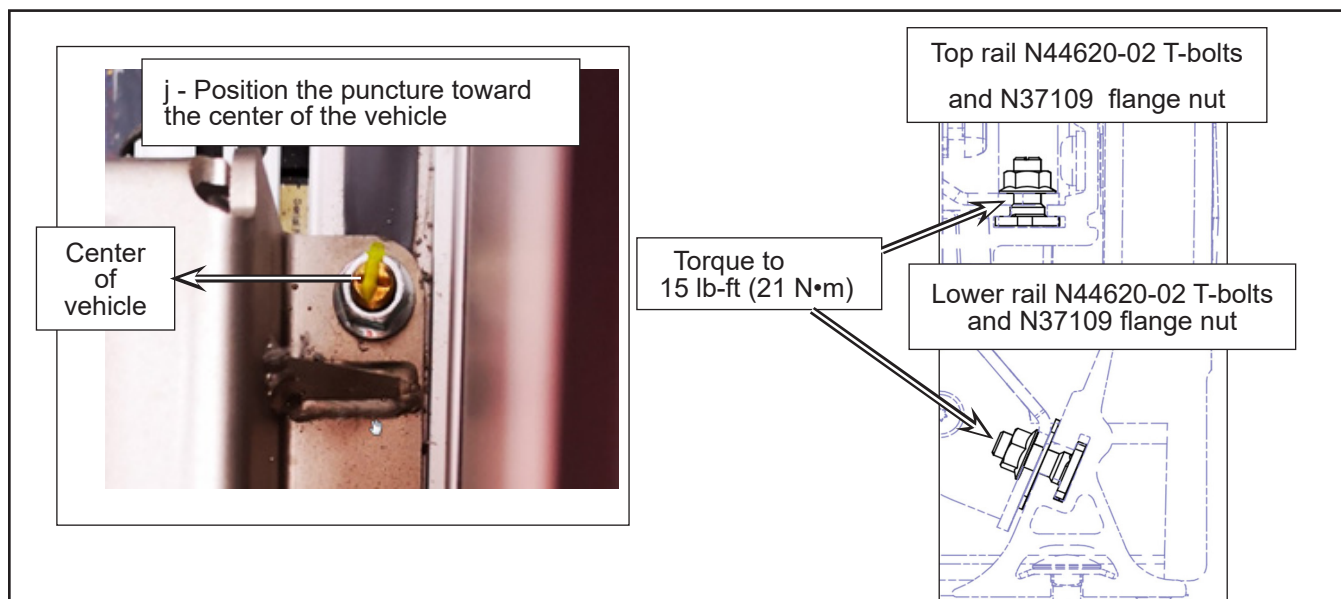

Figure 8 - T-bolt Puncture Alignment and Torque Value
- l. Hand tighten the N37109 serrated flange nuts on all the T-bolts that affix the removed seat(s) to the upper and lower anchor rail. Make sure the puncture in the T-bolts is facing the center of the vehicle. See Figure 8.
- m. Push the N8910246-BS L-bracket toward the upper anchor rail, make sure there is full contact between the L-bracket and the upper anchor rail, and torque the N37109 serrated flanged nut. See Figure 8 for torque value.
- n. With a torque wrench, torque the T-bolts on the lower rail See Figure 8 for torque value.